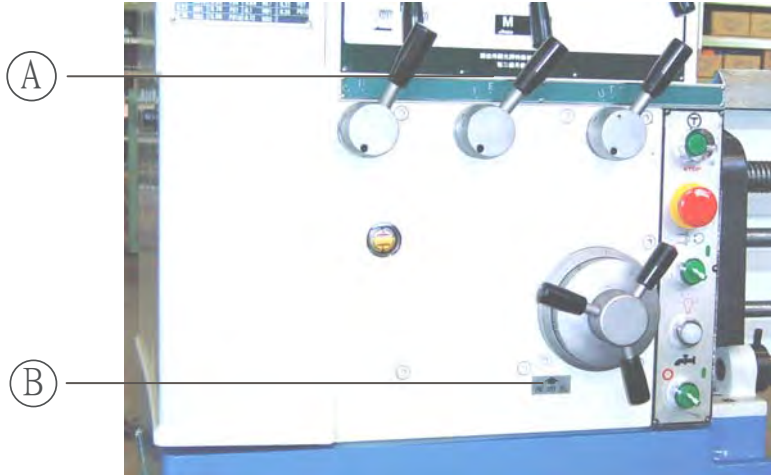

Fig. 7-3
2. Drain hole: On the left bottom side of the 10-step feed selection dial. The screw with hexagon nut is the oil drain hole as arrow (B) shown on figure 7-3.